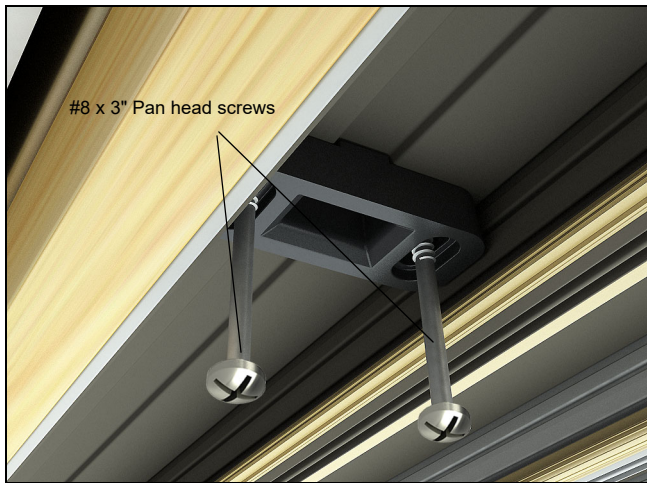

Figure 109
8. Fasten the flush bolt strike through the pre-drilled holes using the #8 x 3" black installation screws, near the center of the head jamb on the interior track. Ensure there are adequate shims between the rough opening and the head jamb where the strike is located. See figure 109.